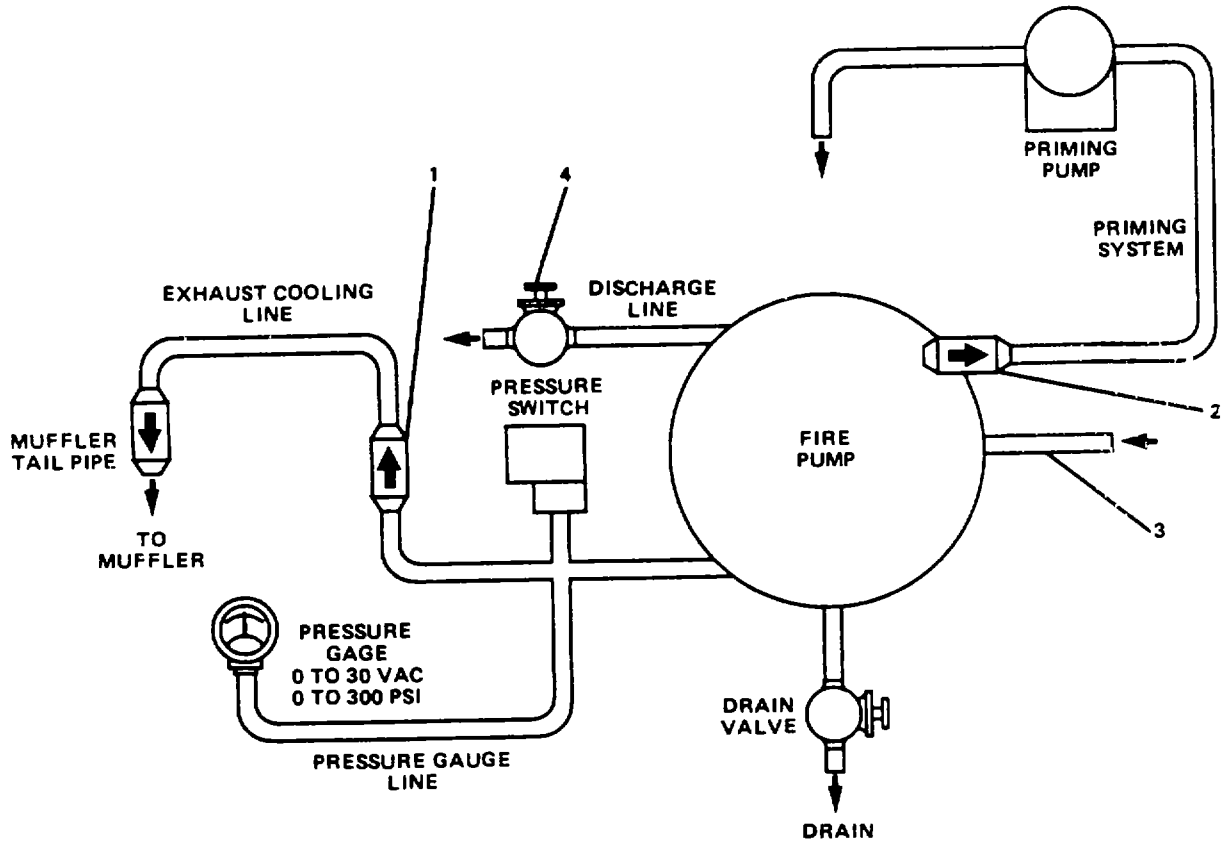

Figure 2-124. Hydrostatic Leakage Test.
- b. Remove check valve (1, Figure 2-124) in exhaust cooling line (paragraph 2-156) and reinstall it in the opposite direction.
- c. Remove check valve (2) in priming system line (paragraph 2-156) and reinstall it in the opposite direction.
- d. Connect fire pump to a water pressure source at suction inlet (3), not to exceed 150 psi
- e. With water pressure applied, open discharge valve (4) until water comes out of discharge line.
- j. Remove check valve (2) (paragraph 2-156) and reinstall it in the normal flow direction.
- k. Remove check valve (1) (paragraph 2-156) and reinstall it in the normal flow direction.